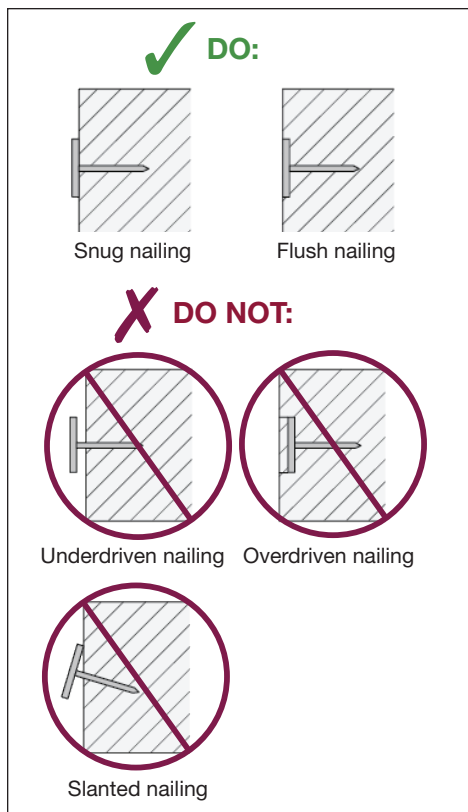

Fig. 18
- Make sure your nail gun is set to drive the nail head even/flush with the surface of the siding (**Fig. 18**)
- Fasten each piece of siding through the face 1 inch away from the edge of the siding reveal area (**Fig. 18**), no less than 3/4" from the edge